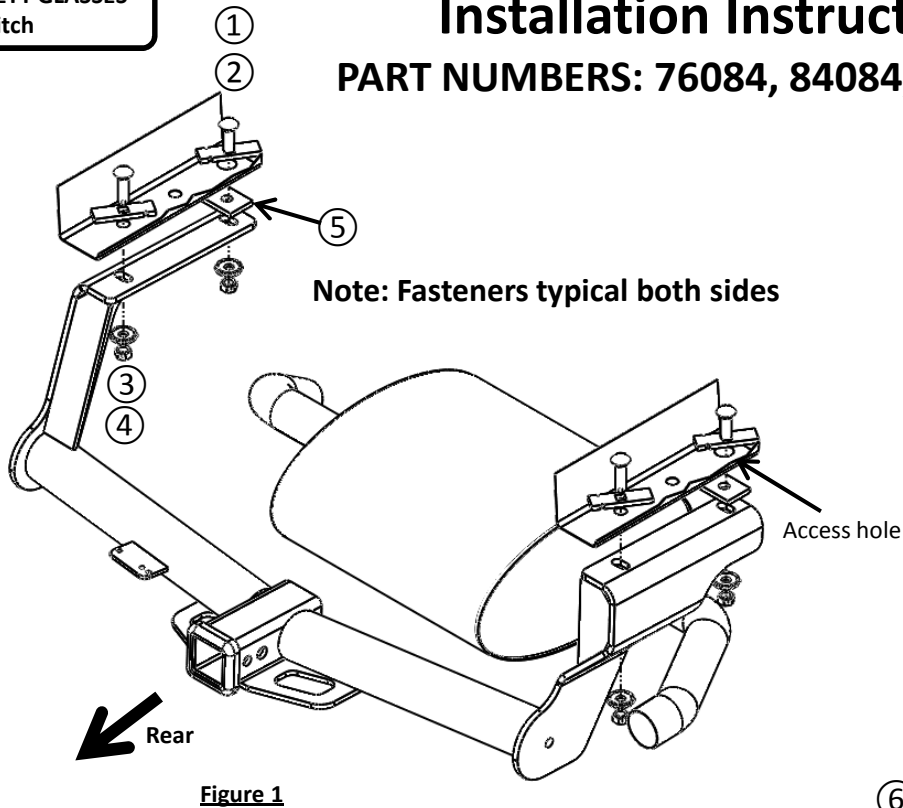

Figure 4
- RAISE HITCH :** Raise hitch into position, feed pull wire through corresponding slots on hitch with spacer (item 5) (see figure 4 for orientation) between frame and hitch bracket at forward attachment as shown. See figure 1. Install conical washer and use to hold the bolt in place, remove the pull wires and attach the hex nut. Tighten to hold hitch in place, repeat on all fasteners.
4. RAISE HITCH : Raise hitch into position, feed pull wire through corresponding slots on hitch with spacer (item 5) (see figure 4 for orientation) between frame and hitch bracket at forward attachment as shown. See figure 1. Install conical washer and use to hold the bolt in place, remove the pull wires and attach the hex nut. Tighten to hold hitch in place, repeat on all fasteners.